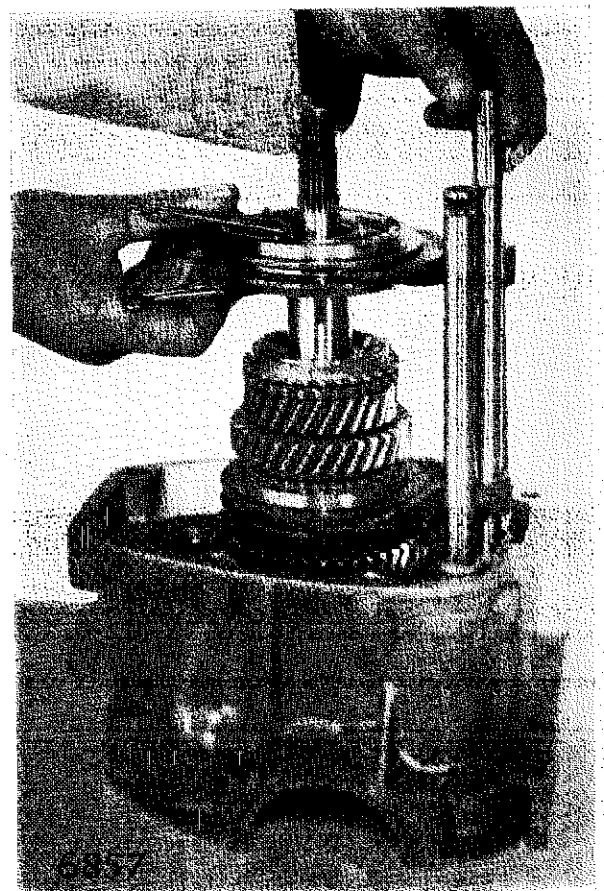

Fig. 18. *Remove/refit 3rd/4th synchro hub and selector*
Remove 3rd/4th synchro hub assembly (73) after fitting keepers, together with the 3rd/4th selector shaft and fork (77), as shown in Fig. 18.